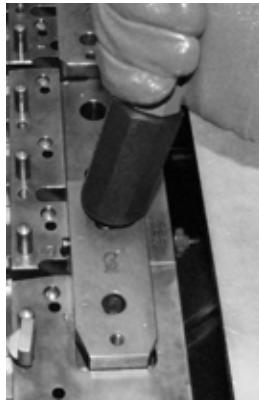

Fig. 4.55 – Insertion of fulcrum 3
4.10 insert fulcrum 3 with a sharp blow (fig. 4.55);